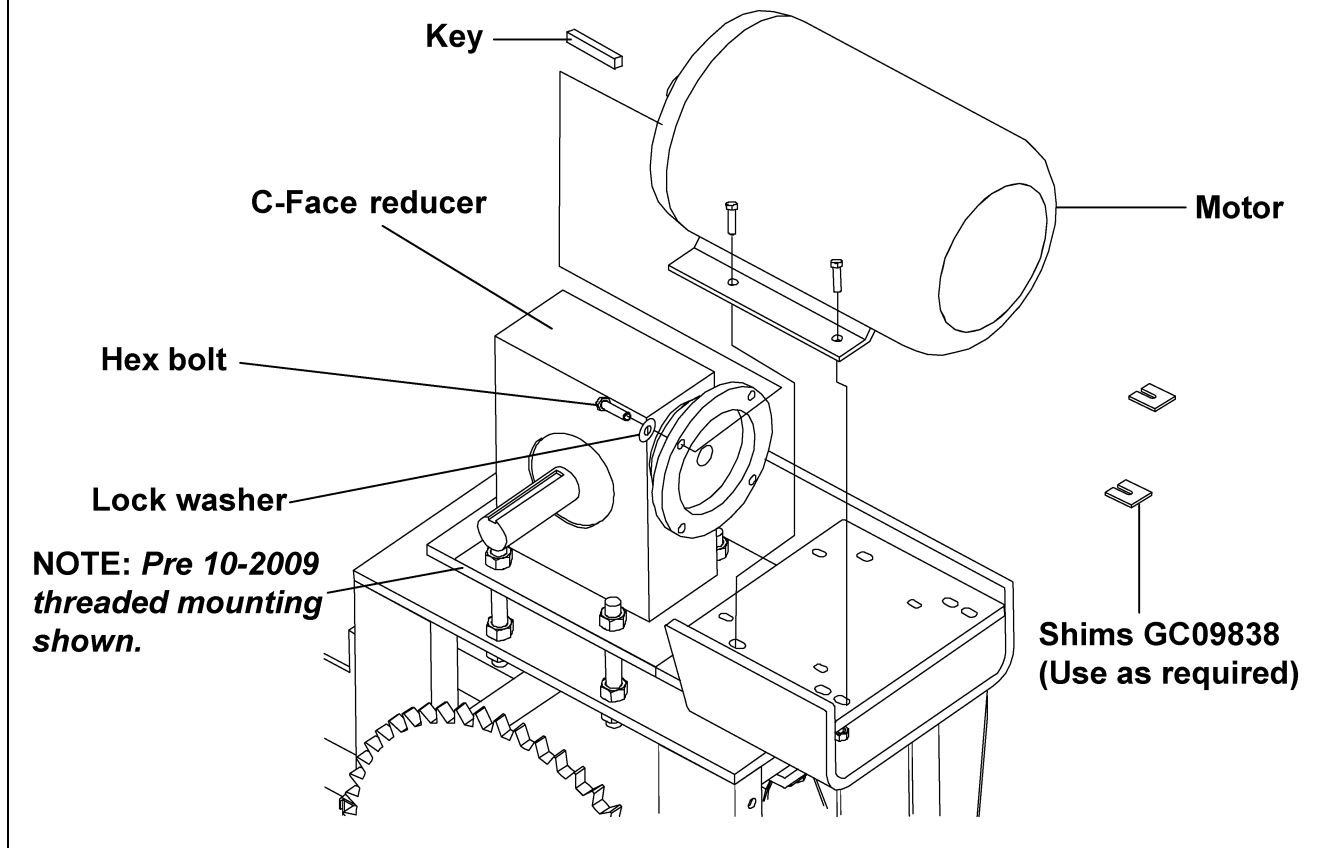

Figure 5P
A. Bolt the C-Face motor to the reducer using hex bolts, lock washers and a key. (See Figure 5P on Page 35.) (See the note on Page 35 for bolt size.)
- C. Assemble the Bottom Chain Guard Trap to the Bottom Chain Guard Weldment using 1/2" x 3" HHCS bolts, 1/2" split lock washers, and 1/2" hex nuts. (See Figure 5P.)